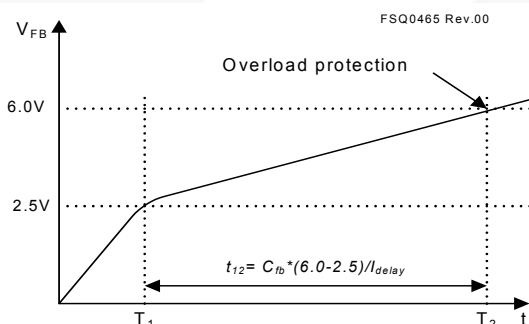

Figure 29. Overload Protection
4.1 Overload Protection (OLP): Overload is defined as the load current exceeding its normal level due to an unexpected abnormal event. In this situation, the protection circuit should trigger to protect the SMPS. However, even when the SMPS is in the normal operation, the overload protection circuit can be triggered during the load transition. To avoid this undesired operation, the overload protection circuit is designed to trigger only after a specified time to determine whether it is a transient situation or a true overload situation. Because of the pulse-by-pulse current limit capability, the maximum peak current through the SenseFET is limited, and therefore the maximum input power is restricted with a given input voltage. If the output consumes more than this maximum power, the output voltage (V_O) decreases below the set voltage. This reduces the current through the opto-coupler LED, which also reduces the opto-coupler transistor current, thus increasing the feedback voltage (V_{FB}). If V_{FB} exceeds 2.5V, D1 is blocked and the 5μA current source starts to charge C_B slowly up to V_{CC} . In this condition, V_{FB} continues increasing until it reaches 6V, when the switching operation is terminated, as shown in Figure 29. The delay time for shutdown is the time required to charge C_B from 2.5V to 6V with 5μA. A 20 ~ 50ms delay time is typical for most applications.